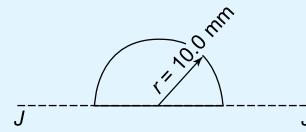

Figure 9.22
- For the semicircle shown in Figure 9.22, find the second moment of area and radius of gyration about axis JJ .